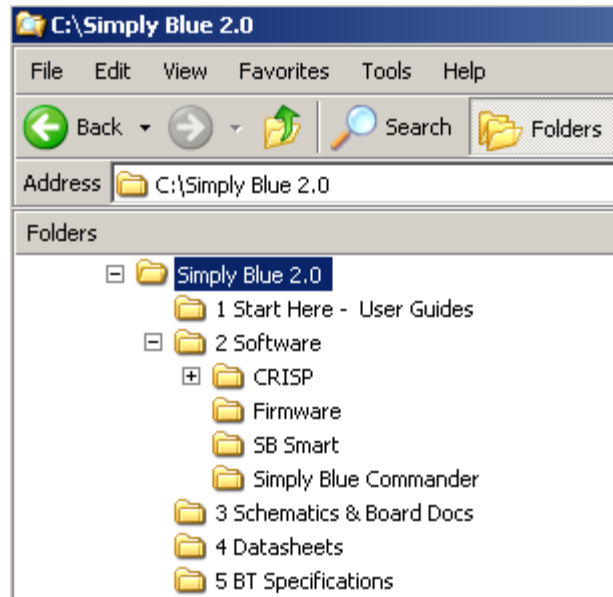

Figure 2-2. Simply Blue Default Directory
- 2) Click the *Install Software* button. Reference Figure 2-2 on page 2. This will install CRISP, documentation, SB Smart and Simply Blue Commander. Please browse the CD.